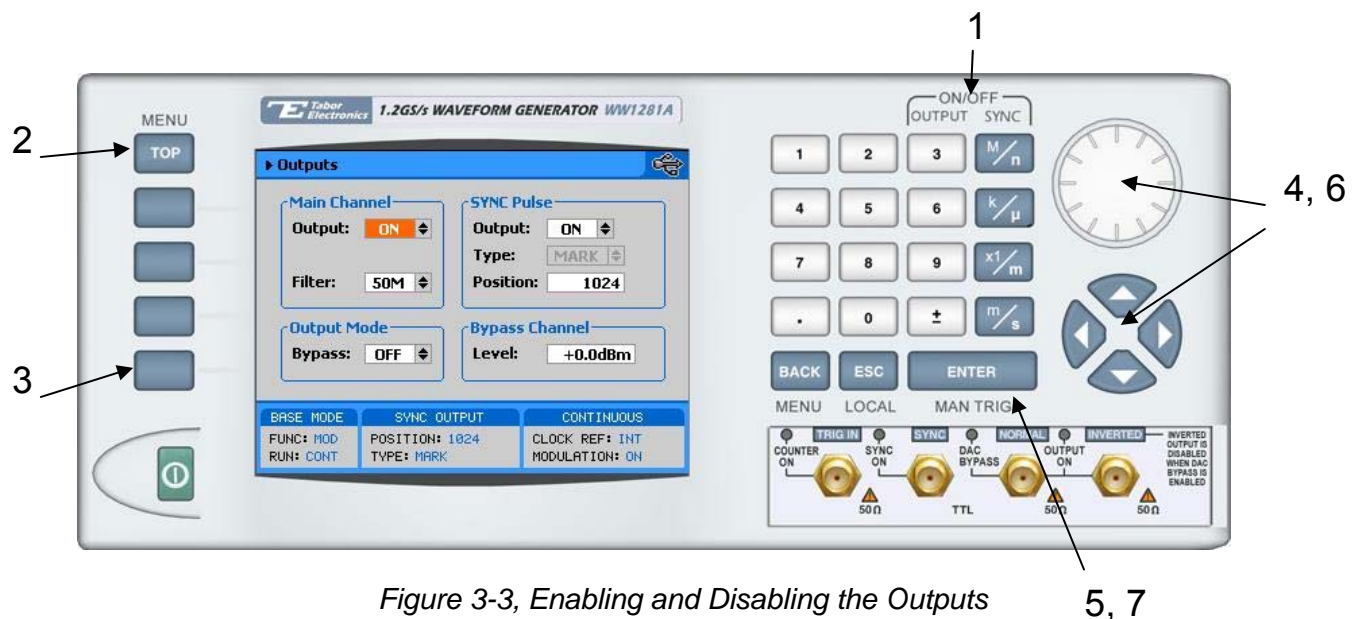

Figure 3-3, Enabling and Disabling the Outputs
For safety reasons, main outputs default setting is OFF. The outputs can be turned on and off using either the hot keys, or the Output Menu. Observe Figure 3-3 and disable or enable the main outputs using the procedure below. The same procedure can be used for enabling and disabling the SYNC output. The numbers on Figure 3-3 correspond to the procedure steps in the following description. While **not** editing any parameter, Press ON/OFF OUTPUT or SYNC to toggle main and sync output on and off.
3. Press Outputs to open the Outputs dialog box as shown in Figure 3-3